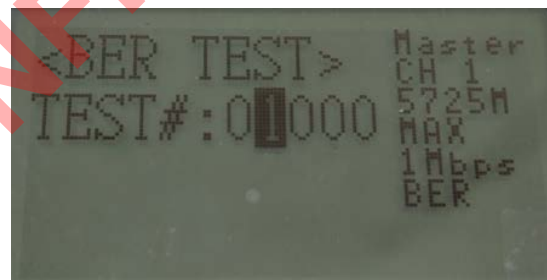

Fig 33
3. Press '↓' or '←' button to edit Packet Numbers (from 100 to 99900) as shown in Fig 33.